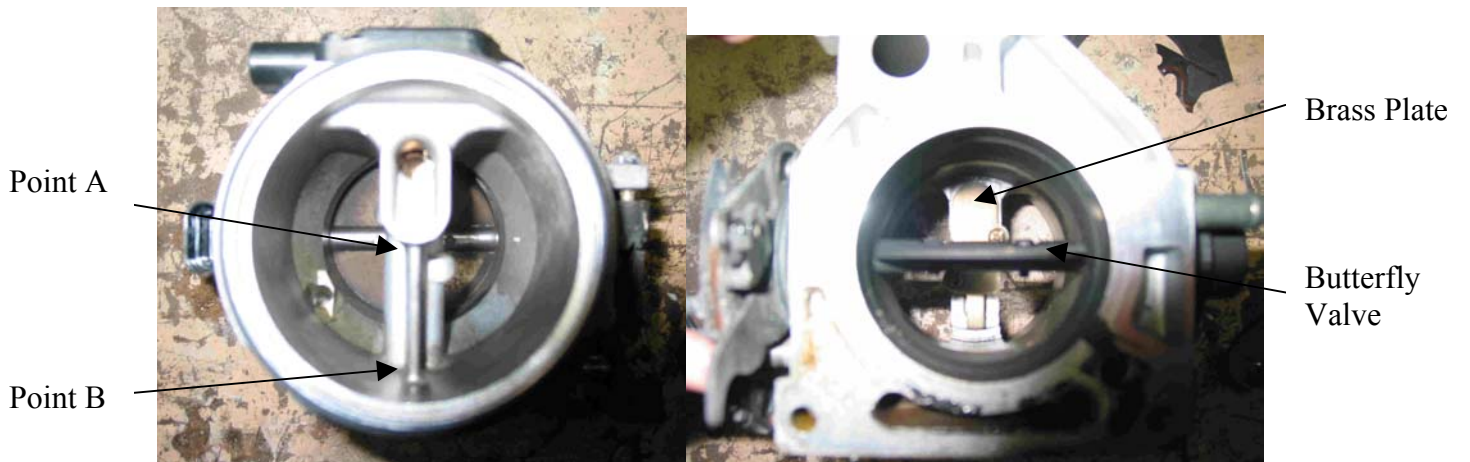

Figure 2: Interior of Throttle Body before Porting and Polishing
4. Remove the two retaining screws on the butterfly valve with the Phillips head screwdriver. Reference figure 2.
7. Remove the two retaining screws on the center post retaining the brass plate. Discard the brass plate. Reference figure 2.
1. Use the hacksaw and saw through the post at Point A and Point B in figure 2. Using lubricant on the blade of the hacksaw will help in this step.